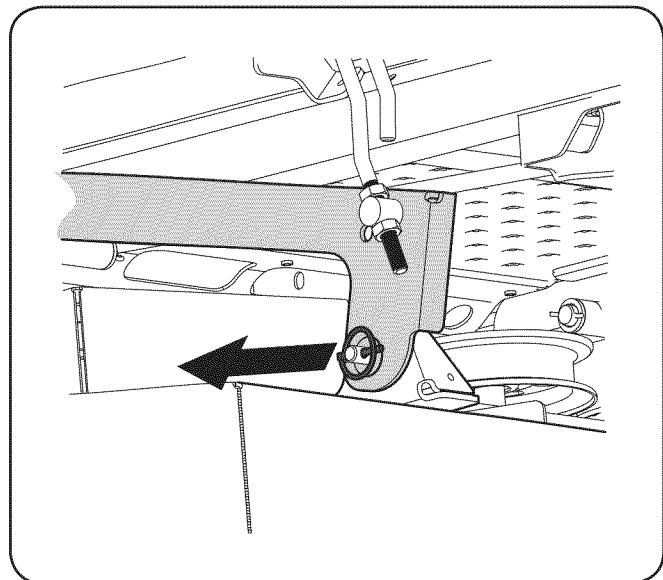

Figure 27
- Locate the LH and RH deck release pins on each side of the deck. Pull the release pins outward and release the deck from the LH and RH deck lift arms. See Figure 27.
- Pull the deck release pins outward and maneuver the deck as necessary to align the holes in the deck lift arms with the pins. Refer to Figure 27.